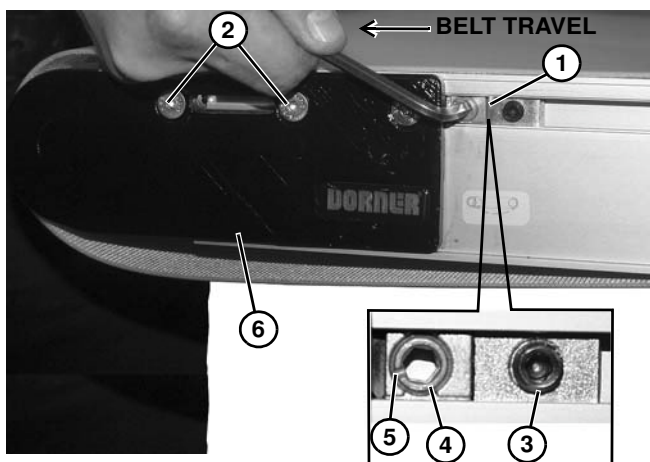

Figure 61
Non V-guided belt conveyors are equipped with belt tracking cam assemblies (**Figure 61, item 1**) for belt tracking adjustment.
1. Ensure head plate fastening screws (**Figure 61, item 2**) on both sides of conveyor are tightened.
2. On both sides of conveyor, loosen cam fastening screw (**Figure 61, item 3**). Adjust cams (**Figure 61, item 4**) until indicator slots (**Figure 61, item 5**) are horizontal and facing end of conveyor. Then slide cam assemblies against head plates (**Figure 61, item 6**) and re-tighten cam fastening screws (**Figure 61, item 3**) to 7 Nm.
3. On the side toward which the belt is tracking, loosen head plate fastening screws (**Figure 61, item 2**).
4. With the conveyor running, use a 5 mm hex-key wrench to rotate the tracking cam (**Figure 61, item 4**) in small increments until the belt tracks in the center of the conveyor. Then while holding the cam in position, re-tighten the head plate fastening screws (**Figure 61, item 2**) with a 4 mm hex-key wrench to 7 Nm.